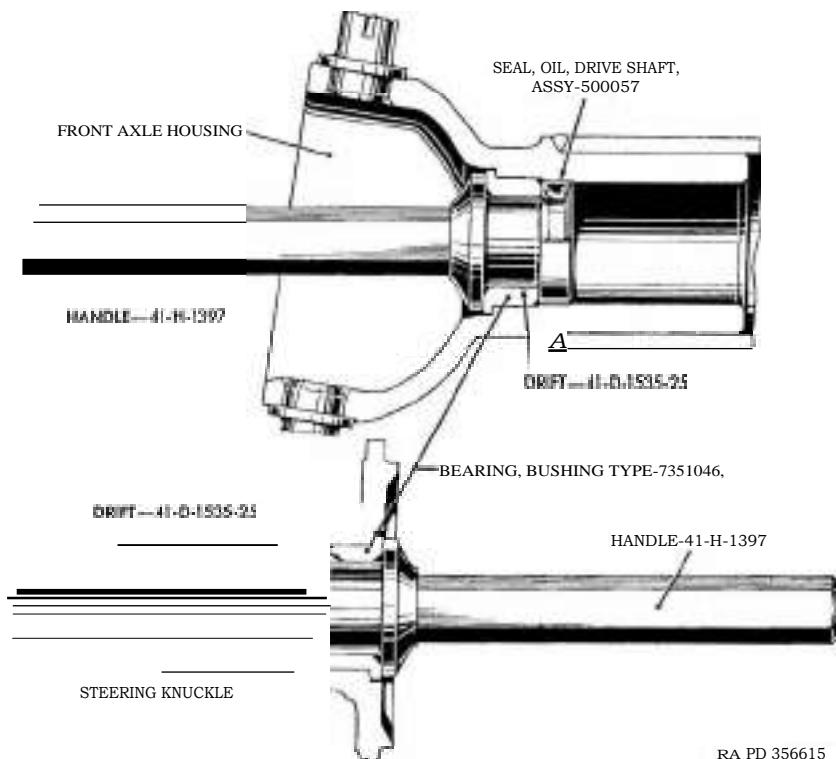

Figure 66. Installing bushing-type bearings and drive shaft oil seal assembly.
- (1) Inspect tie rod for misalignment and worn threads. If the tie rod is bent, it can be straightened ; however, if the threads are worn, tie rod must be replaced.
- (2) Inspect tie rod end assemblies for wear and, if any play is evident, replace tie rod ends. Inspect tie rod end dust covers, tie rod end dust cover washers, and tie rod end dust cover springs. Replace unsatisfactory parts.
b. *Install Bushing-Type Bearings and Drive Shaft Oil Seal Assemblies in Front Axle Housing.* Prepare drive shaft oil seal assemblies (GG and AQ, fig. 62) by soaking in castor oil or neat's-foot oil for about 30 minutes and work leather by rolling with a round smooth bar (fig. 55) before installing. Position oil seals in axle housing with lip of leather toward differential. Place bushing-type bearings on drift 41—D-1535-25 (fig. 66). With handle 41-R-1397 (fig. 66) and hammer, drive bearings and seals into front axle housing (fig. 66).
- (1) Saturate flange oil seals with light engine oil (OE) and install flange oil seal pressure springs and oil seals in flange oil seal retainers.
- (2) Twist retainers apart at joint ; then slip retainers, springs, and oil seals over the axle housing. Position new flange oil seal retainer gaskets on the flange assemblies (open and up) and place retainers against flange assemblies. Install a 5/16-inch lock washer and 5/16—18NC x $\frac{5}{8}$ cap screw at each side, fingertight, to hold retainers in position.
- (3) Position flange oil seal joint seals and flange oil seal joint seal retainers over joints of flange oil seal retainers. Install other lock washers and cap screws. Tighten screws.
i. Install Bushing-Type Bearings in Steering Knuckles. If inspection (par. 78c) reveals that replacement of bushing-type bearings is necessary, install new bearings with handle 41-11-1397 and drift 41-D-1535 (fig. 66).